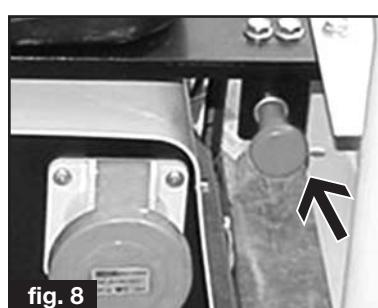

fig. 8
2) W230 models: Pull the knob placed on the control panel (see fig. 8). Wait until the engine is completely off. Turn the key to the "OFF" position.